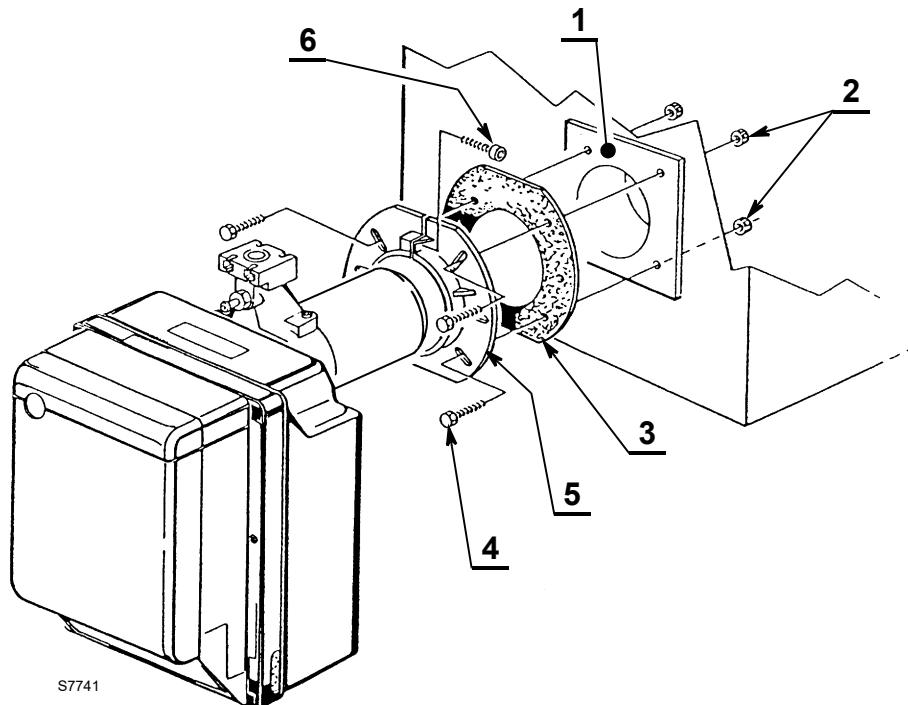

Fig. 12
- Fix the flange 5)(Fig. 12) to the door of the boiler 1)(Fig. 12) placing the insulating gasket 3) in between using the screws 4) and (if necessary) the nuts 2), but keeping one of the two top screws 4)(Fig. 12) loose.
- Insert the combustion head of the burner into the flange 5)(Fig. 12), tighten the flange with the screw 6), then lock the screw 4)(Fig. 12) which was loose.